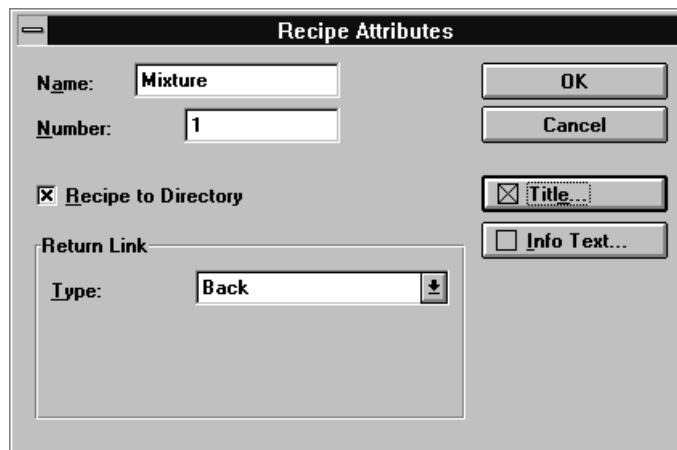

Bild 9-7 *Recipe Attributes* Dialog Box with Settings
1. Choose *Recipe* → *Attributes* from the menu. The *Recipe Attributes* dialog box appears (refer to Figure 9-7). At this point, modify the name of the recipe to *Mixture*.